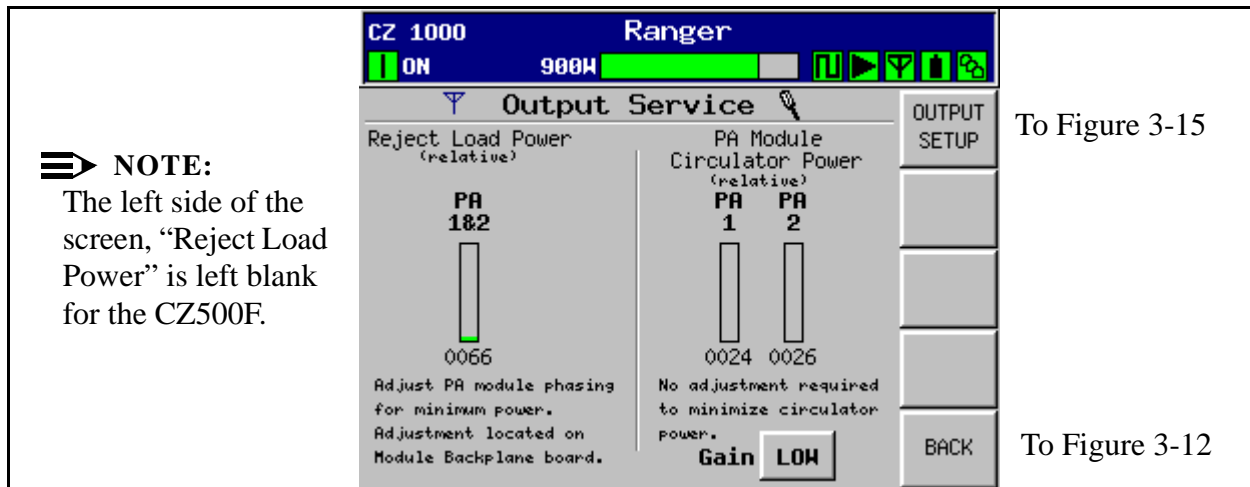

Figure 3-13 Output Service Screen
To Figure 3-13
The goal is to minimize the PA module combiner reject load power reading in Figure 3-13, by adjusting the phase of module #2. The phase of PA module #1 is fixed. The “PA 1&2” reading should be less than 0030 with the GAIN button at the bottom of the screen set to LOW. If the GAIN button is pressed it will toggle to high, increasing the detector gain and allowing for finer resolution when adjusting module phasing. The reading should be less than 0100 with the GAIN set to HIGH.
- STEP 3** Adjust R7 (the only potentiometer) on the Backplane Interface board for minimum voltage reading on the voltmeter. This should minimize the reading on the Output Service screen in Figure 3-13. The location of the Backplane Interface board is shown in Figure 2-11 on page 2-21 under the letter N.
This screen is accessed by pressing the Output Setup button on the Output Service screen in Figure 3-13. It is used to calibrate the filter input power and Total cabinet Forward and Reflected power (after the filter).